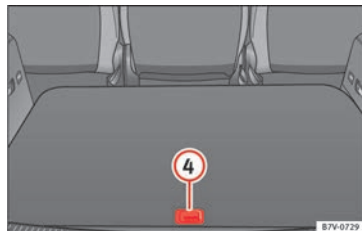

Fig. 187 Other compartments in the boot floor.
Open the rear compartment » Fig. 187 ④:	▷ Lift the rear of the boot floor using the handle.